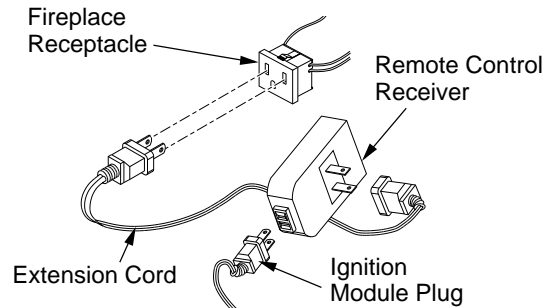

Figure 13 - Installing the WRC Remote Receiver
2. The WRC model receiver does not require a battery. The receiver can be installed by first plugging the short extension cord into the fireplace receptacle. Then plug the receiver unit into the extension cord. Finally plug the ignition module plug into the receiver unit (see Figure 13).